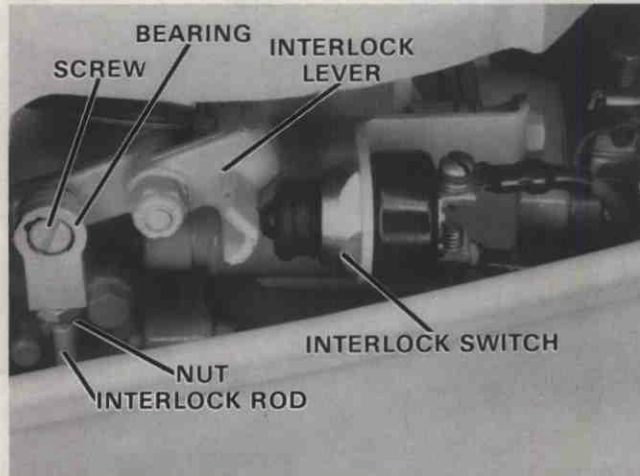

Figure 61. Correct Position: Interlock Switch & Interlock Lever.
3. Shift motor into neutral, interlock lever must depress switch. Adjust by removing screw securing interlock rod to lever. Loosen jam nut and turn bearing on or off until correctly adjusted. Figure 61.